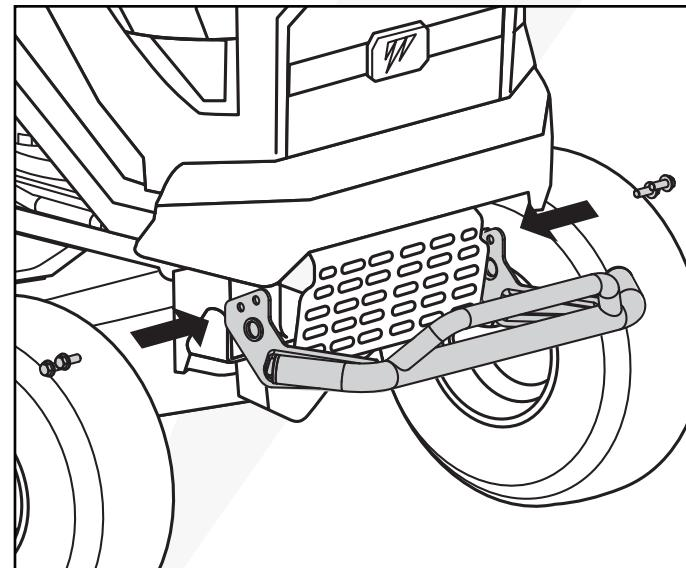

Fig. 5
1. Position the bumper bar in the front of the tractor. (Fig. 5)
2. Install the bumper bar with the four bolts provided (two on each side) to a torque of 15-19 ft-lbs. (Fig. 5)